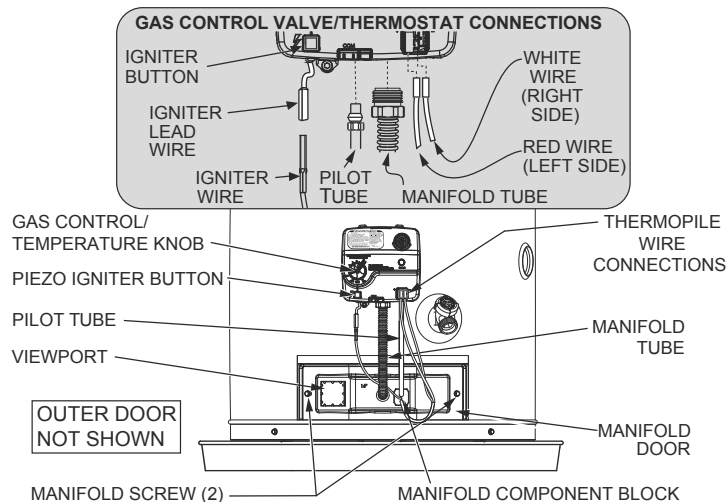

FIGURE 31.
5. Remove the two screws securing the installed manifold door assembly to the combustion chamber (Figure 31).
6. Disconnect the following from the gas control valve/thermostat: pilot tube, igniter wire, and manifold tube. See Figure 31.
7. Using needle nose pliers to grip the connectors, disconnect the white and red thermopile wires from the gas control valve/thermostat (Figure 31).
6. Reconnect the manifold tube and pilot tube to the gas control valve/thermostat (Figure 31). Do not cross-thread or apply any thread sealant to the fittings. IMPORTANT: If you were supplied with a new ferrule nut in a parts kit, follow these steps to connect the pilot tube:
7. Connect the white and red thermopile wire connectors to the gas control valve/thermostat. See Figure 31.